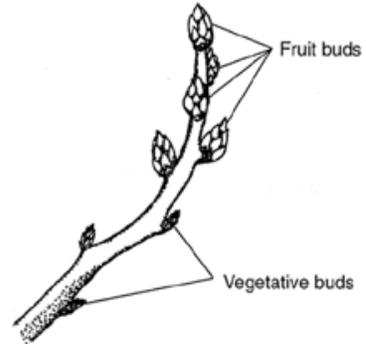

Figure 1. Types of buds on a blueberry shoot
4. Remove any weak fruiting branches on the remaining canes, especially those less than six inches in length. Most fruit is produced on vigorous one-year-old shoots on healthy two- to five-year-old canes. The fruit buds on these shoots are large and teardrop-shaped. Each bud will produce a cluster of five to eight flowers. The shoots also have smaller, pointed vegetative buds that will produce leaves (Figure 1).